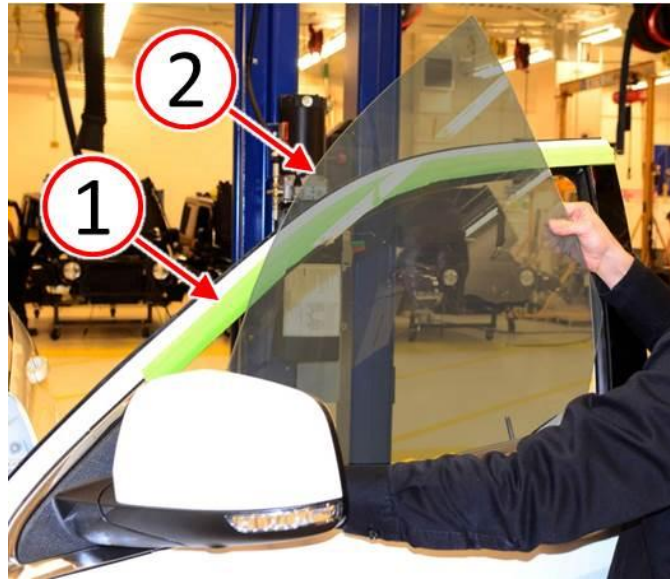

Fig. 11 Install Front Door Glass
9. Install the front door glass (2) (Fig. 11). Refer to the detailed service procedures available in DealerCONNECT> TechCONNECT under: Service Info> 23 - Body> Door - Front> GLASS, Door> Installation.
10. Remove the protective tape (1) from the front door window frame (Fig. 11).